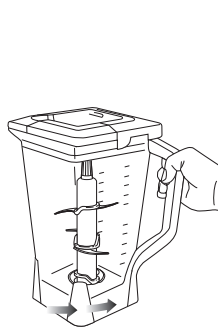

Fig. 9
- 14** Turn the pitcher counter clockwise to remove and then lift off the base. (Fig. 9)